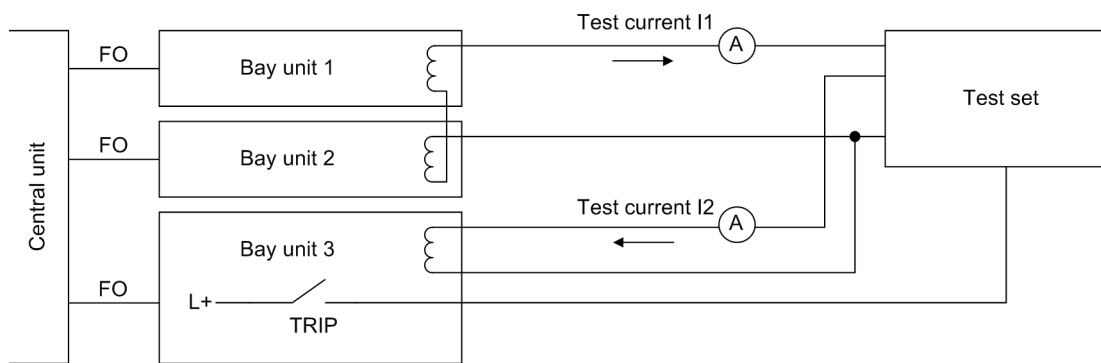

Figure 7-13 Test setup for the trip characteristic of the check zone.
The test setup for the check zone is shown in Figure 7-13, page 282. When the bus selectivity is checked switch one or more bays on a second bus (possibly by a feeder position simulation)
- ❑ Connect the current inputs of these bay units back to back (see Figure 7-13, page 282). Connect bay 3 to a different bus.